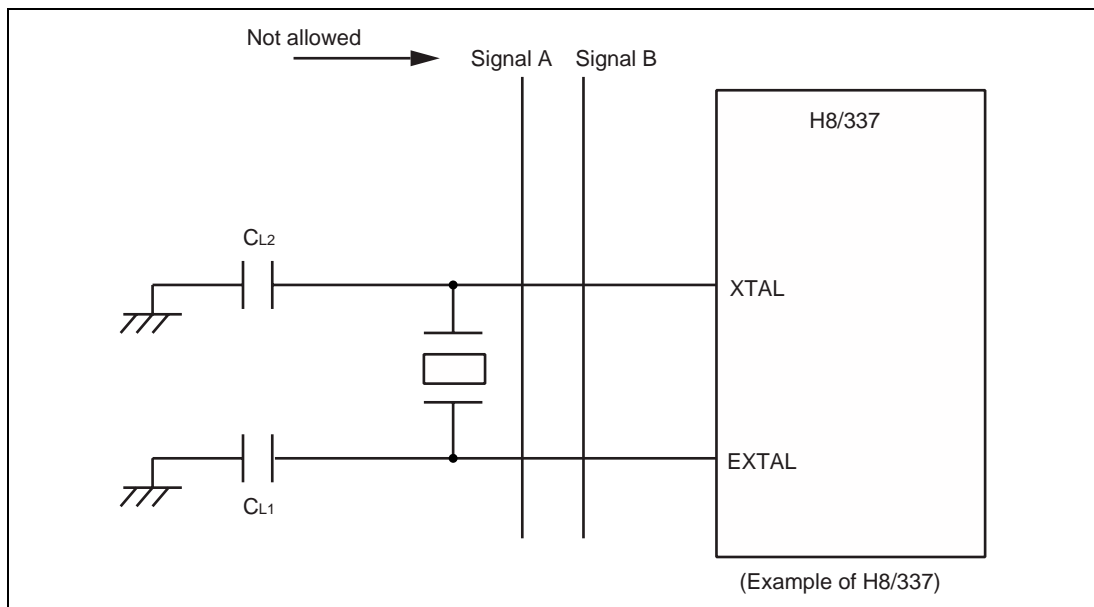

Figure 5.4 Notes on Board Design around External Crystal
- ③ **Note on Board Design:** When an external crystal is connected, other signal lines should be kept away from the crystal circuit to prevent induction from interfering with correct oscillation. See figure 5.4. The crystal and its load capacitors should be placed as close as possible to the XTAL and EXTAL pins.